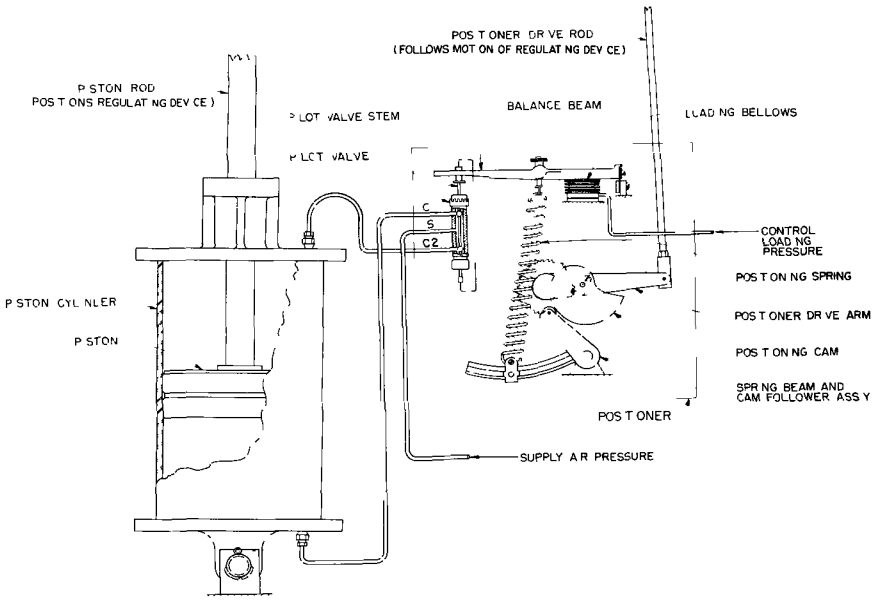
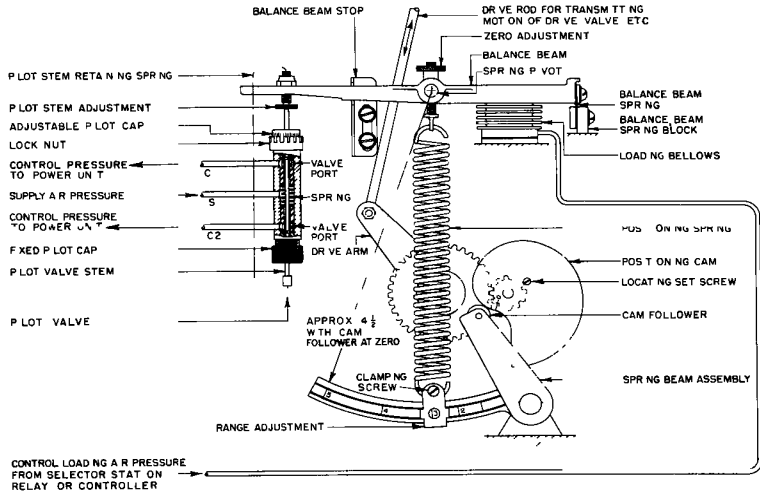
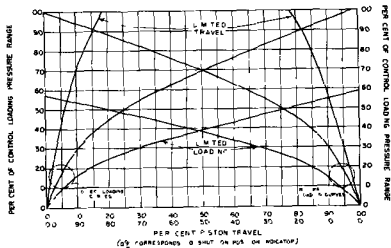

FIGURE 2 Schematic of Positioner Applied to Double Acting Air Cylinder and Piston Assembly
FIGURE 4 Positioner Adjustments
FIGURE 5 Cam A. Square Root Relation
A typical application of the Bailey Positioner is shown in Figure 2. The power operator to which the Positioner is applied is a double acting air cylinder and piston assembly. The piston rod may be connected thru suitable linkage to position a valve, damper, or other regulating device.
When the forces exerted by the loading bellows and positioning spring (Figure 2) are balanced against each other, the balance beam holds the pilot valve stem in its "neutral" position, i.e., the pilot valve stem lands are centered at the pilot ports, creating equal pressures on either side of the piston. Thus, the position of the power operator is maintained.
Direct loading (Figure 2) is that arrangement whereby upward movement of the piston rod causes a valve, damper, or other regulating device to open as control loading pressure to the Positioner bellows increases. Control air pressure from the upper port of the Positioner pilot valve is supplied to the underside of the piston. The positioning cam is assembled (red concentric and radial lines visible) so that when the cam turns in a counterclockwise direction, tension on the positioning spring will increase.
1. Remove cam (Figure 4)
Refer to Figure 4. The adjustments below are based on the direct loading arrangement shown in Figure 2. If the power operator is arranged for reverse loading, note that its movements and position will be opposite of those for direct loading applications
6. Set control loading at minimum range value (3 psig). Piston should remain in its CLOSED position, and Positioner balance beam should be horizontal and midway between upper and lower stop (see Figure 4).
NOTE For best operating results, when cam follower is at zero on cam, distance between top of spring beam (at both marks 1 and 5) and center of spring pivot on balance beam (Figure 4) should be 4 1/2 inches $\pm 1/16$ inch Repeat steps 6, 7, 8, and 9 until dimension is obtained If material has been removed from cam at zero point, it is impossible to meet this dimension
13 Turn off supply air to Positioner, then remove pipe plug at top of piston cylinder (Figure 2) and mount an accurate pressure gage in pipe plug hole. (If cylinder has no plug, remove connecting tubing and insert a tee connection to which both pressure gage and connecting tubing can be attached) Turn on supply air
a unlock finger of locknut which is engaged in adjustable pilot cap groove (Figure 4),
1 Zero or Suppression Adjustment By means of the zero adjustment (Figure 4) an initial tension may be imposed upon the positioning spring so that the piston will not start to move from its minimum position until the control loading pressure has increased (from 3 psig) to any value up to 15 (or 27) psig This adjustment is of value when two or more power operators are to be operated in sequence, where the power operator is equipped with a minimum stop, or where the characteristic of the device which the operator is moving must be matched with that of another regulated device
2 Range Adjustment The range adjustment (Figure 4) affords a variation of power operator motion for a given range of control loading pressure The amount of variation extends, roughly, from full piston travel for a 3 to 15 psig change in control loading pressure to one half piston travel for a 3 to 27 psig control loading pressure change. In combination with the zero adjustment described above, full piston travel may be obtained for as small a loading pressure change as 10 psi - e.g., a range of 10 to 20 psig Range adjustments available with each of the three Positioner cams furnished are shown in Figures 5, 6, and 7 This adjustment is of value when the device being regulated by the power operator is oversized, since the adjustment allows operation of the power operator thru its useful motion for the desired full change in control loading pressure It is also useful in matching the loading vs position characteristic of the power operator with those of related power devices in the same control system
4 Cam Characteristic Adjustment This adjustment involves selecting or shaping the proper positioning cam in order to obtain that characteristic of piston position vs control loading pressure which will afford the desired characteristic of controlled medium vs control loading pressure. Positioning cams A, B, and C are furnished with each Positioner (the B cam is shipped assembled in place and the A and C cams are attached inside Positioner case). The characteristics for which the cams are shaped are listed in Table 2 and are shown in Figures 5, 6, and 7. The figures show a family of curves for each cam, each curve representing a Range Adjustment when used with that specific cam. Table 1 shows pressure values of the various control loading ranges equivalent to the control loading per cent values in Figures 5, 6, and 7.
- 4 Select the positioning cam whose characteristic curve, shown in Figure 5, 6, and 7, most closely matches the loading vs piston position characteristic determined in step 3
- 1 Remove pilot valve stem by springing open pilot stem retaining spring (Figure 4) and allowing stem to drop out (Do not scratch stem lands during this process.)